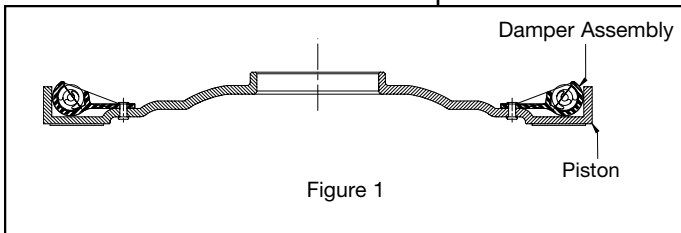

Figure 1
1. Chuck the piston plate (Figure 1) in a lathe with damper spring side facing out.